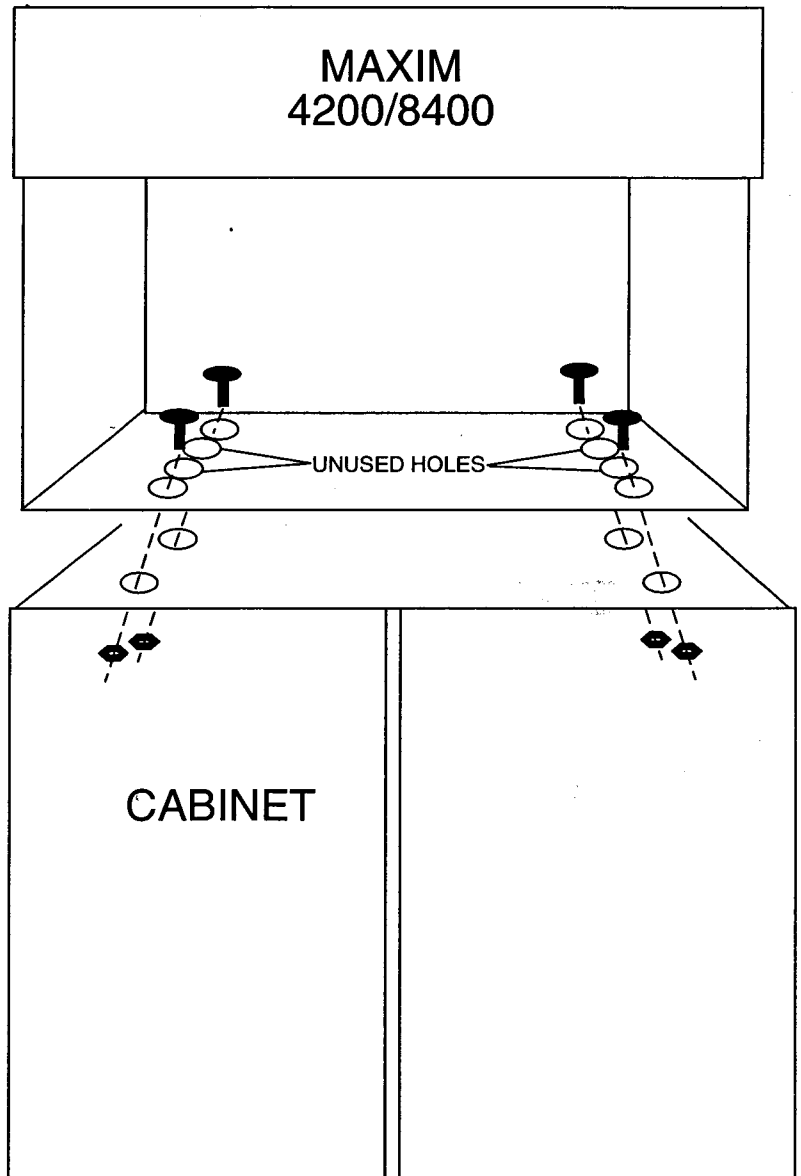

Figure 1
3. Align the four mounting holes on each side of the Maxim™ bottom panel with holes in the top of cabinet. (Figure 1)